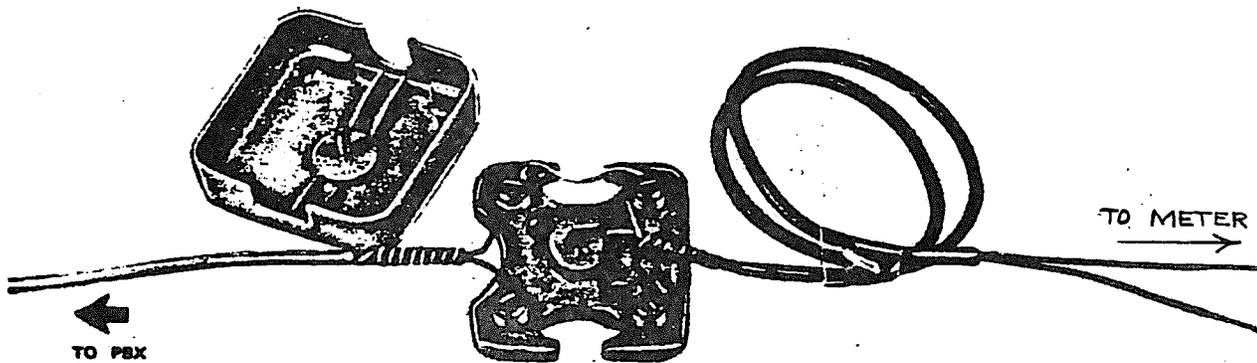

Fig. 1 - Power Meter Interface Connection Block, Cover Removed
- 4.2 Mount the power meter interface connection block (Fig. 1) in a location provided by the building management (should be close to the power meter). If this location is outdoors, the connection block must be sheltered from the weather.